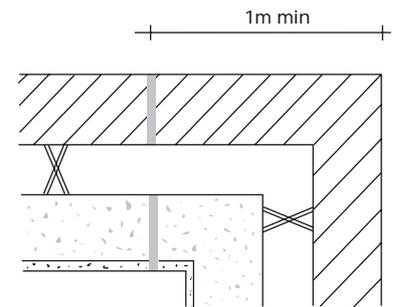

Fig. 7
- Between 1m and 3m from a corner (see Figure 7).